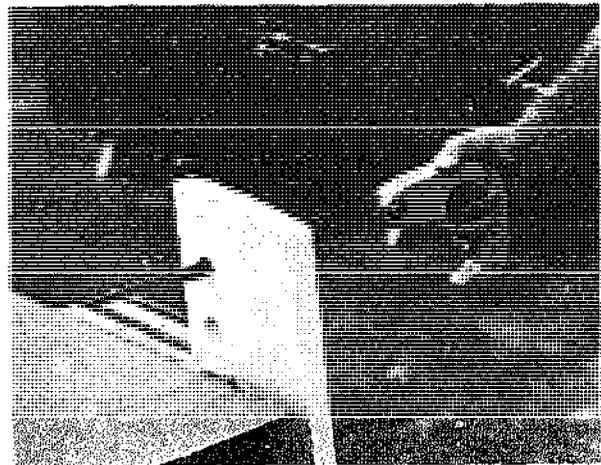

Fig. 6-14 Cutting an inside hole with a compass saw.
3. When cutting out sections within the material where the saw cannot be started on an outside edge, bore holes inside the guidelines. Place the top of the blade in a bored hole and cut along the guidelines. See figure 6-14.